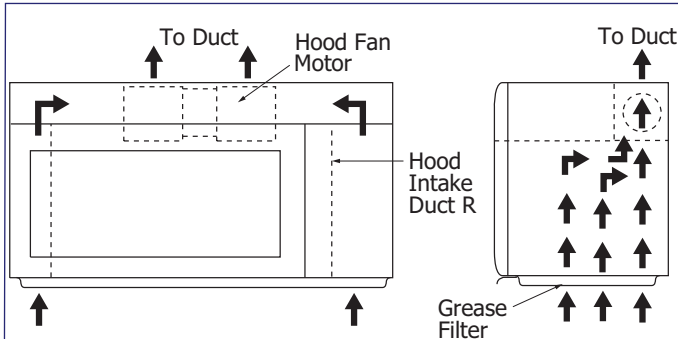

**Figure 2-2. Oven ON (Cooking) Condition**
1. The contacts of relays are closed and components connected to the relays are turned on as follows. (For details, refer to Figure 2-2)